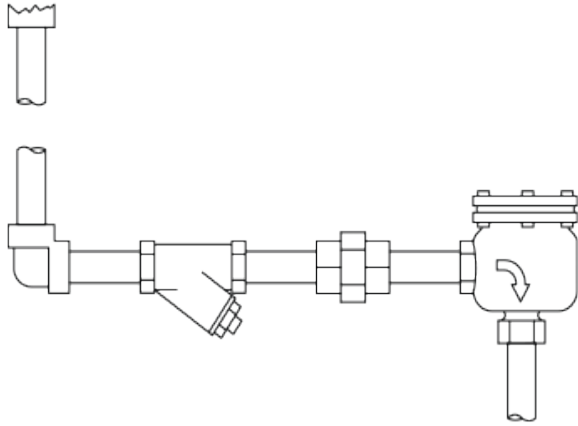

Figure 2. Ample UNINSULATED cooling leg and strainer. If 18 in. / 457 mm vertical cooling leg is not available, make up the difference with horizontal piping.
6. Provide uninsulated condensate reservoir and cooling leg between outlet of equipment and trap inlet. See Figure 2.